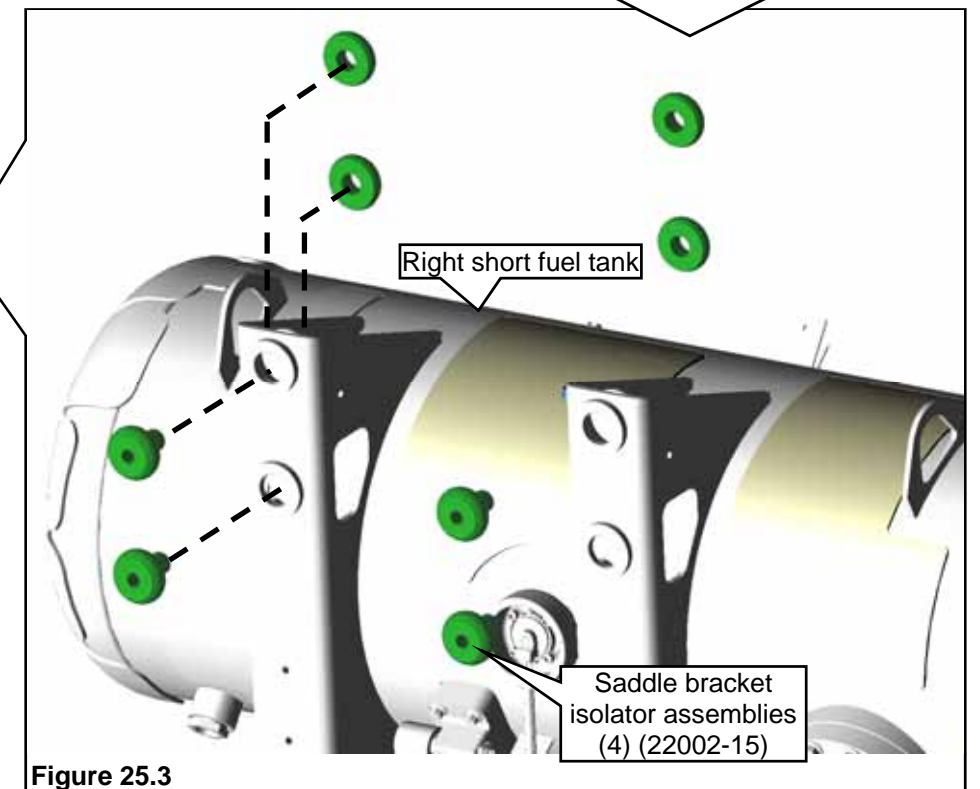

Figure 25.3
2. Position four saddle bracket isolator assemblies to the tank saddle brackets and install them using a soft mallet. **Note:** Use a suitable lubricant on the isolators to ease installation. **Figure 25.3.**